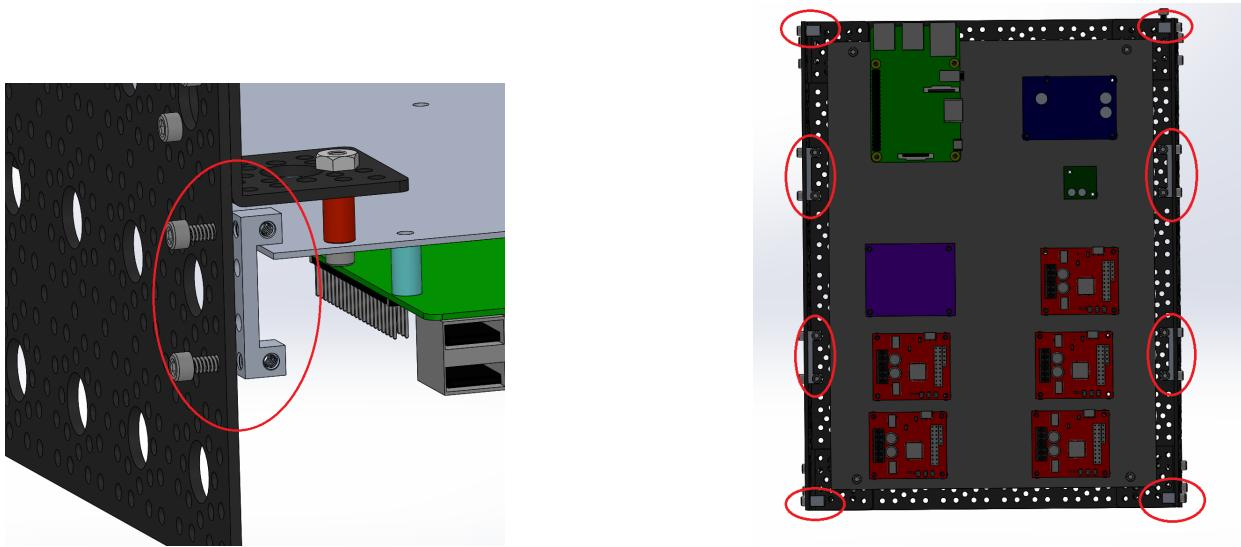

Figure 10: Dual Side Mount A locations
1. **Attach the Dual Side Mounts:** Mount Dual Side Mounts A **S17** using screws **B1** in the locations shown in Figure 10.